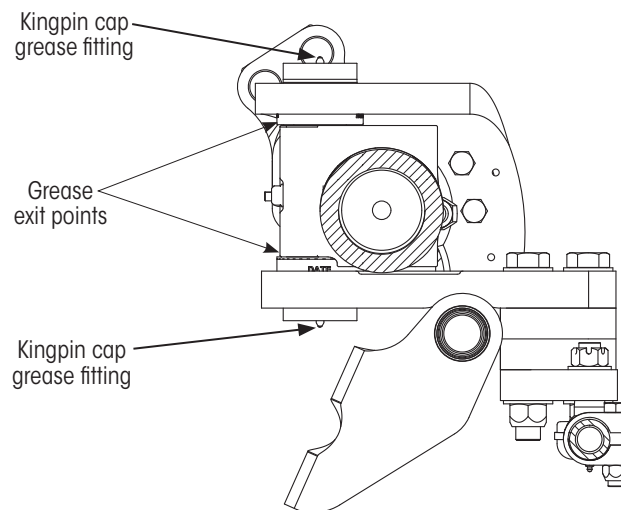

Figure 2: Kingpin lubrication
- B. Kingpin - upper and lower grease fittings on the top and bottom of the steering knuckle. Apply grease until fresh grease can be seen exiting from joints shown in Figure 2.